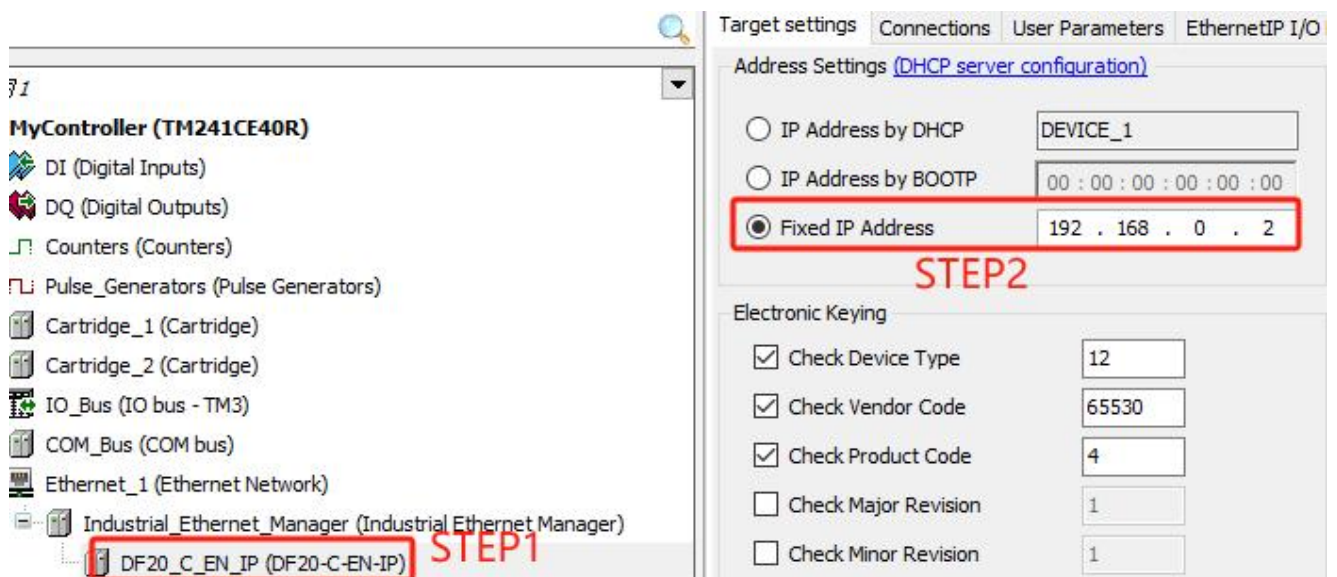

Figure 5-3-13
- As shown in Figure 5-3-13, click "DF20-C-EN-IP" to configure the coupler parameters.